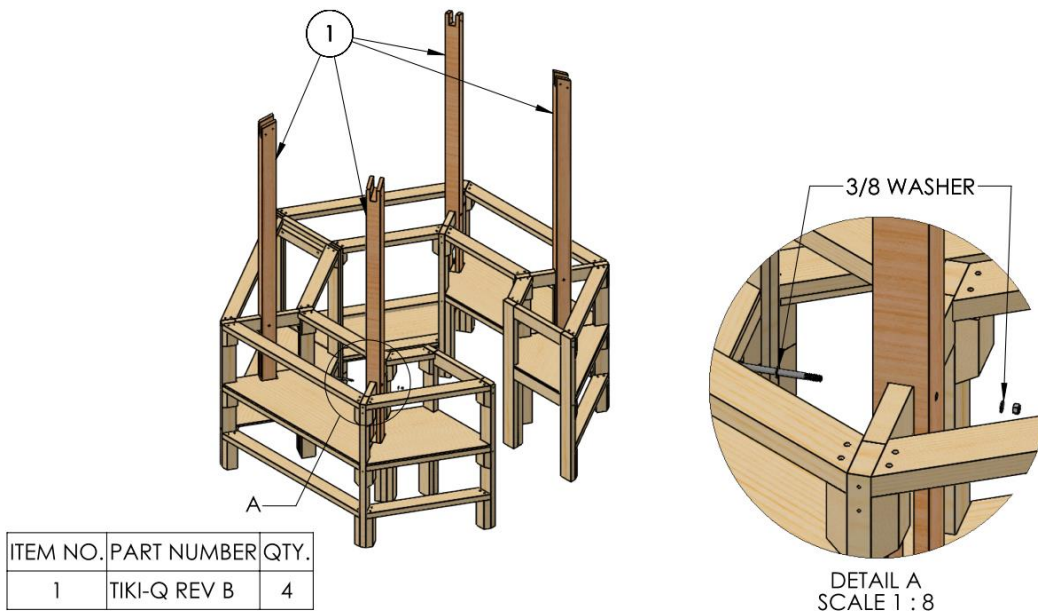

Figure 6
6) Slide the 4 cedar posts in place, making sure the slant is orientated correctly. Line up the top hole in the post with the hole on the bar; fasten the post with a 5" bolt, 2 washers and nuts (Bag #6) using the top hole. Then repeat for the bottom hole. See figure 6.